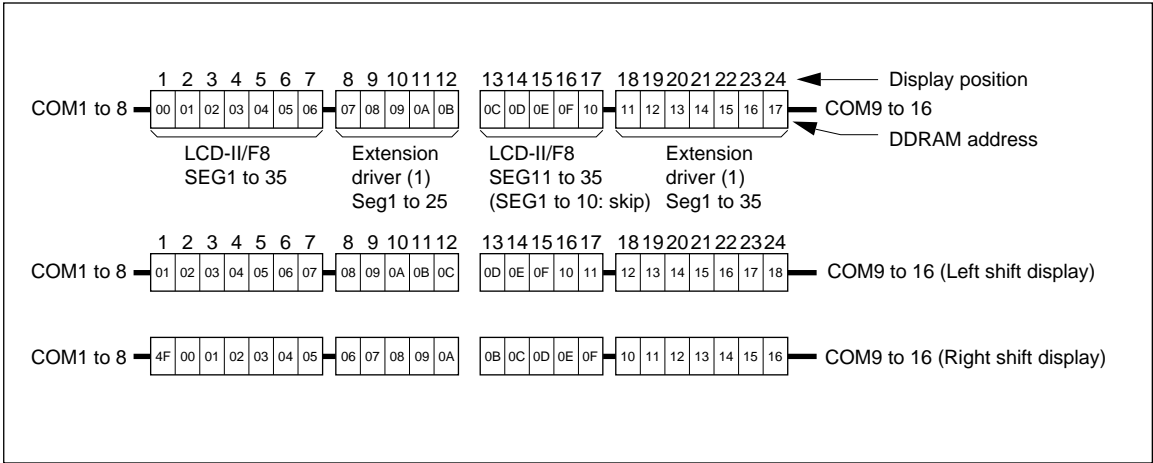

Figure 4 1-line by 24-Character Display Example
- Case 2: Figure 4 shows the case where the EXT pin is fixed high, and the HD66710 and the 40-output extension driver are used to extend the number of display characters. In this case, the start address from COM9 to COM16 of the LCD-II/F8 is 0AH. To display 24 characters, addresses starting at SEG11 should be used.
When a display shift operation is performed, the DD RAM address shifts. See figure 4.